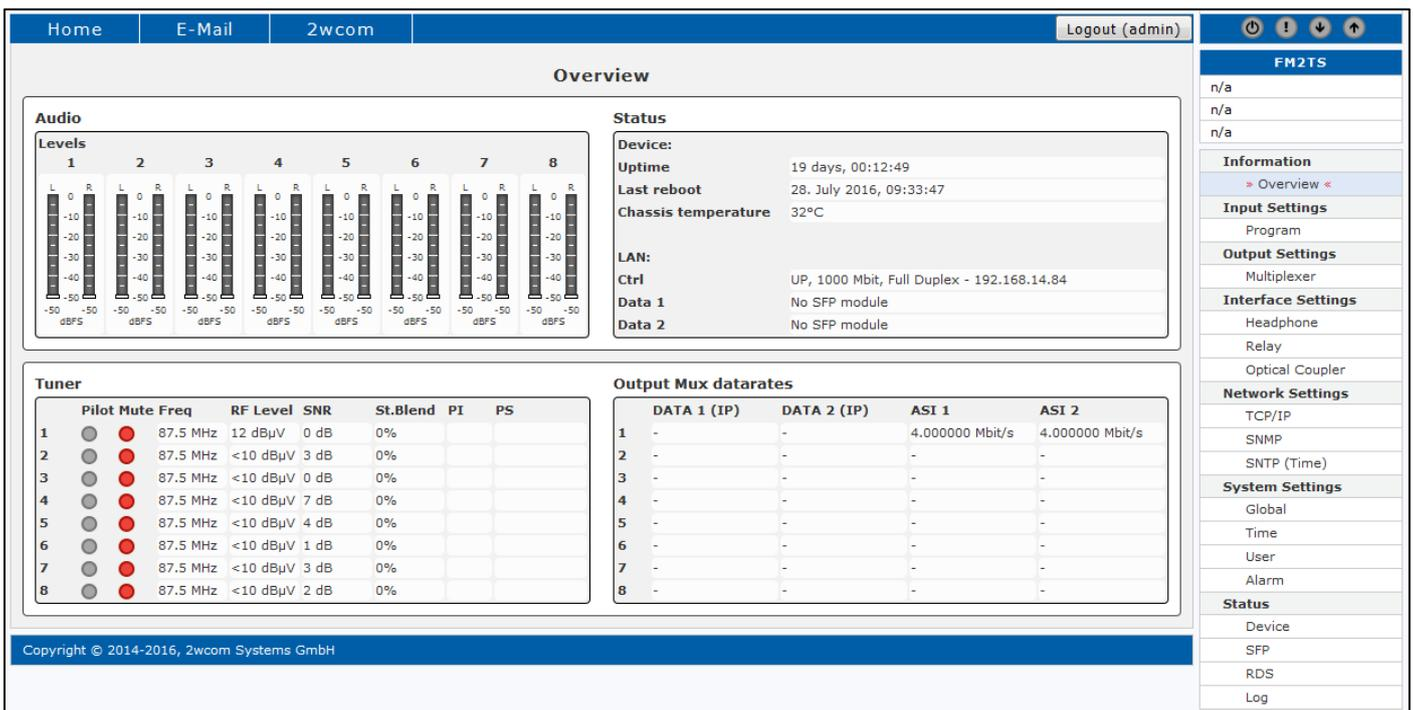

Figure 7: Overview of the current tuner settings and encoder status
- ⇒ Check the current settings and the audio level for all 8 tuner under **Information**→**Overview** (see "Tuner" field and "Audio" field in Figure 7) or on the integrated LCD monitor in the device.